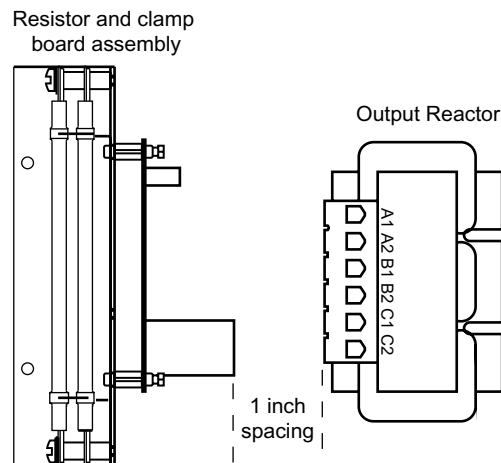

Figure 3: Mounting Orientation and Component Spacing
- Orient filter kit components as shown in Figure 3 below.